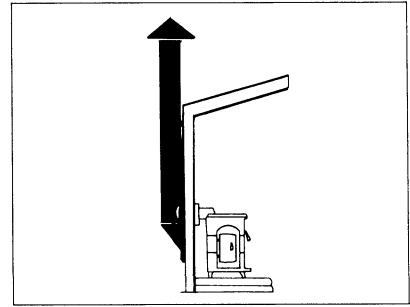

Figure 11
- (2) out the back and through the wall; (see Figure 11)